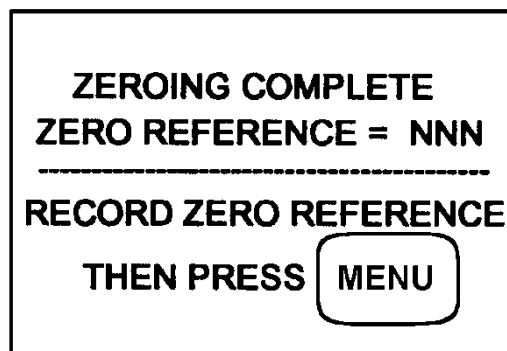

Figure 27
- 14.4.2.6 Verify that the display message changes to "ZEROING COMPLETE ZERO REFERENCE = NNN / RECORD ZERO REFERENCE THEN PRESS MENU" per Figure 27. Verify that NNN = 497 to 503. Record NNN, then press the MENU key. Record values.